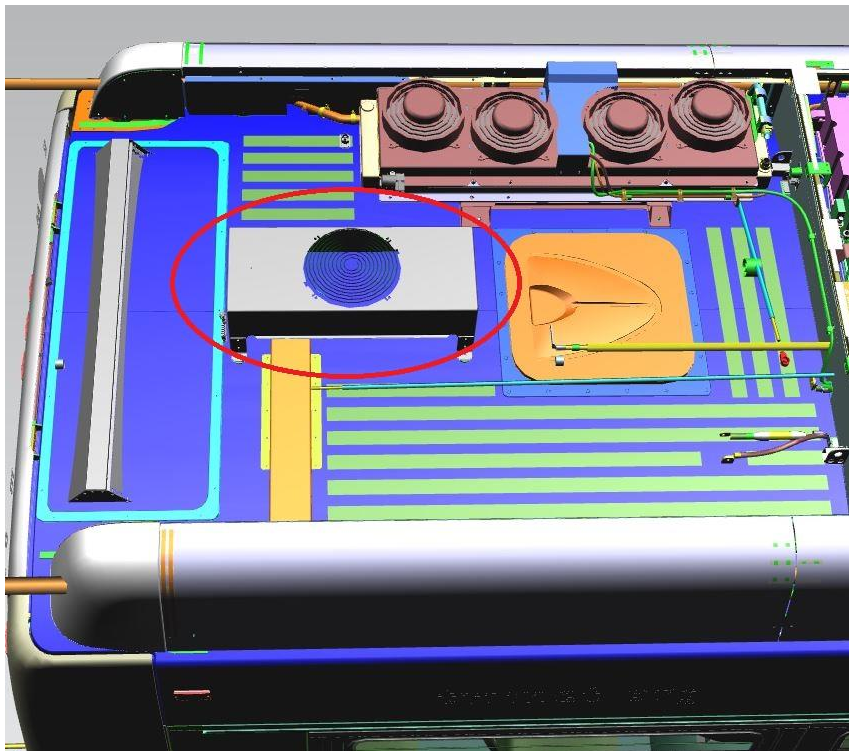

Figure 10: Battery Chiller Location
40. Locate the battery chiller assembly on the roof of the bus as seen below in Figure 10.
☞ **NOTE:** Layout of roof components may be different than shown in Figure 10.